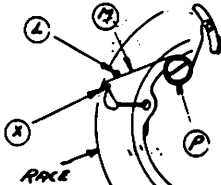

FIG. 4
THE APPROX. CORRECT POSITION IS AS SHOWN IN FIG. 4 AT (X) (AT EDGE OF MACHINED PORTION OF CAM CASE)